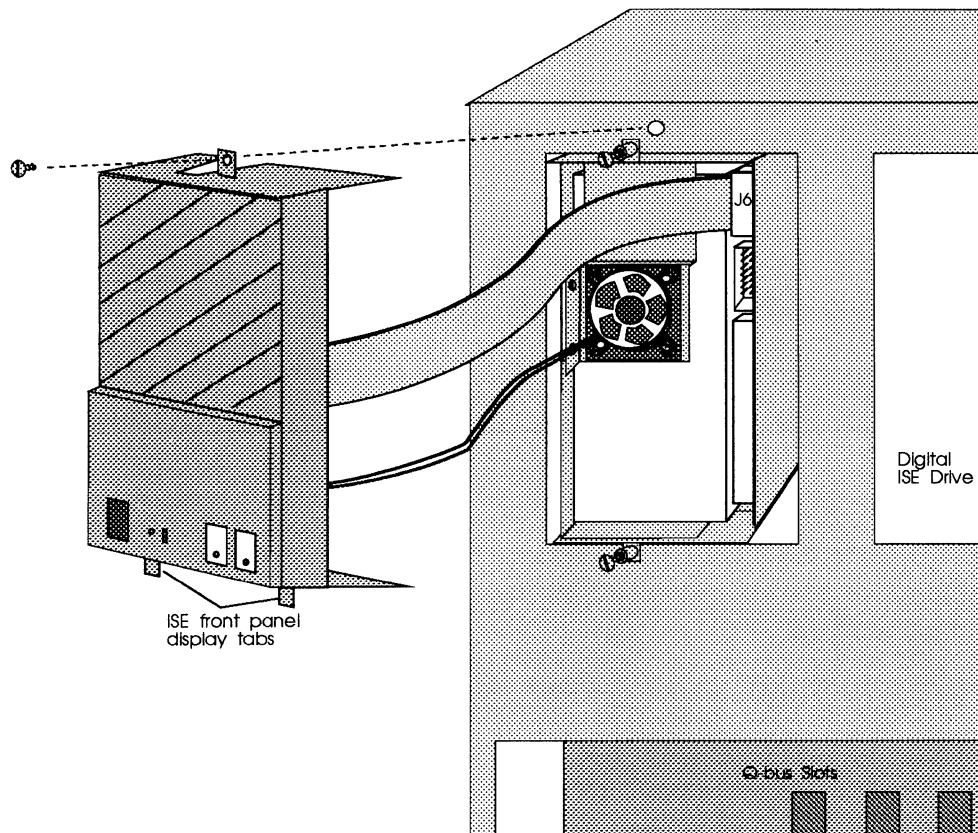

Figure 4-10: CDI-4000-SAE front panel installation
- 17 Slide the two tabs at the bottom of the ISE front panel display inside the system chassis and slide the top tab into the system; see Figure 4-10.
- 18 Put one screw into the system chassis through the top hole in ISE front panel display; see Figure 4-10.